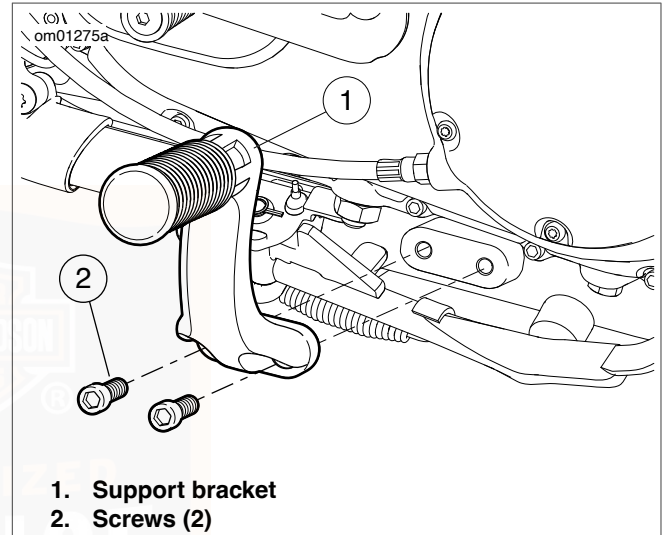

Figure 47. Mid-Mount Rider Footrest Assembly
4. **XL models with mid-mount controls:** See Figure 47. Remove screws and detach the rider footrest support bracket from the left side of the vehicle.
9. **XL models with mid-mount controls:** See Figure 47. Remove screws (2) and detach the rider footrest support bracket (1) from the left side of the vehicle.